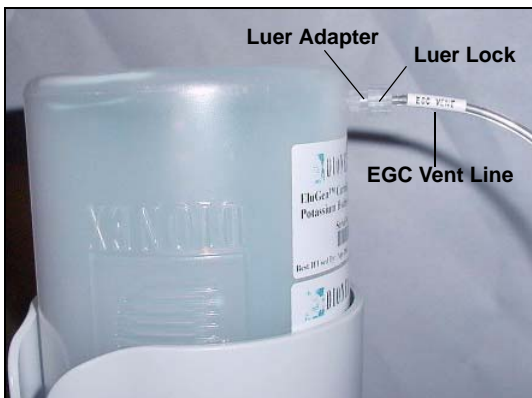

Figure B-44. Installing the EluGen Cartridge Vent Line
4. Twist the luer lock and EluGen cartridge vent line into the luer adapter (see Figure B-44).